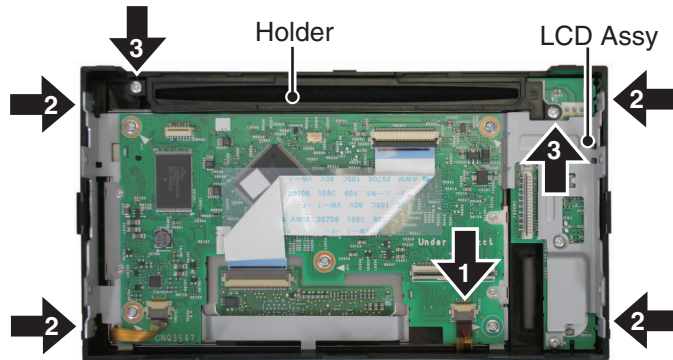

Fig.3
● Removing the LCD Assy (Fig.3)
- 3.Temporarily attach the pick up FPC to the pick up rack. (Fig. 3)